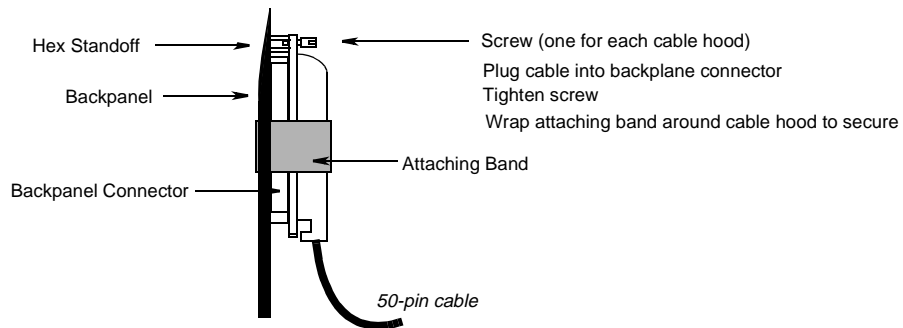

Figure A-3 50-Pin Universal Backplane Kit
3. When 50-pin shielded cables are attached to the Universal Backplane's connectors, be sure to use frame grounding kit (GDC Part No. 010K070-001) which include 3 sets of screws and clips (discard). See Figure A-3.